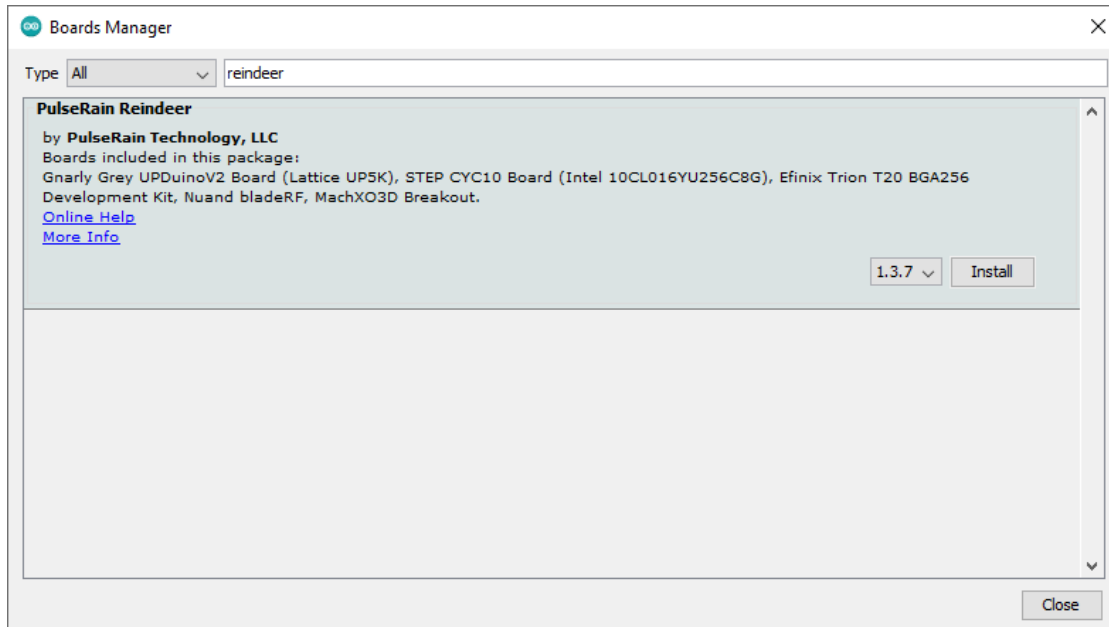

Figure 3-5 Arduino IDE, Boards Support Package for Lattice MachXO3D Breakout Board
- 3) The "Boards Manager" will bring out a dialogue like the one shown in Figure 3-5. Type in "Reindeer" in the search box to find the board support package for the MachXO3D Breakout Board. Click "Install" to download and install the board support package.